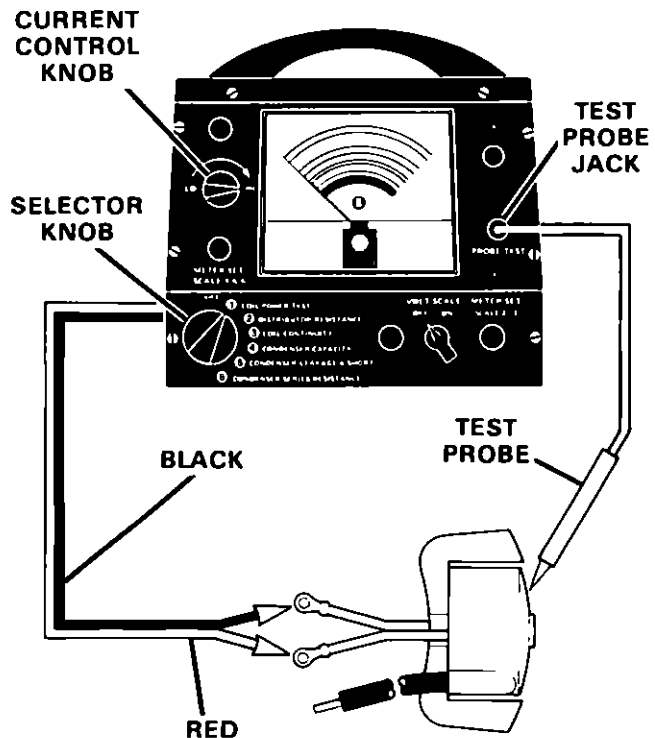

Figure 38. Testing Coil Surface Insulation
- 1 Plug test probe into jack in front of analyzer Figure 38